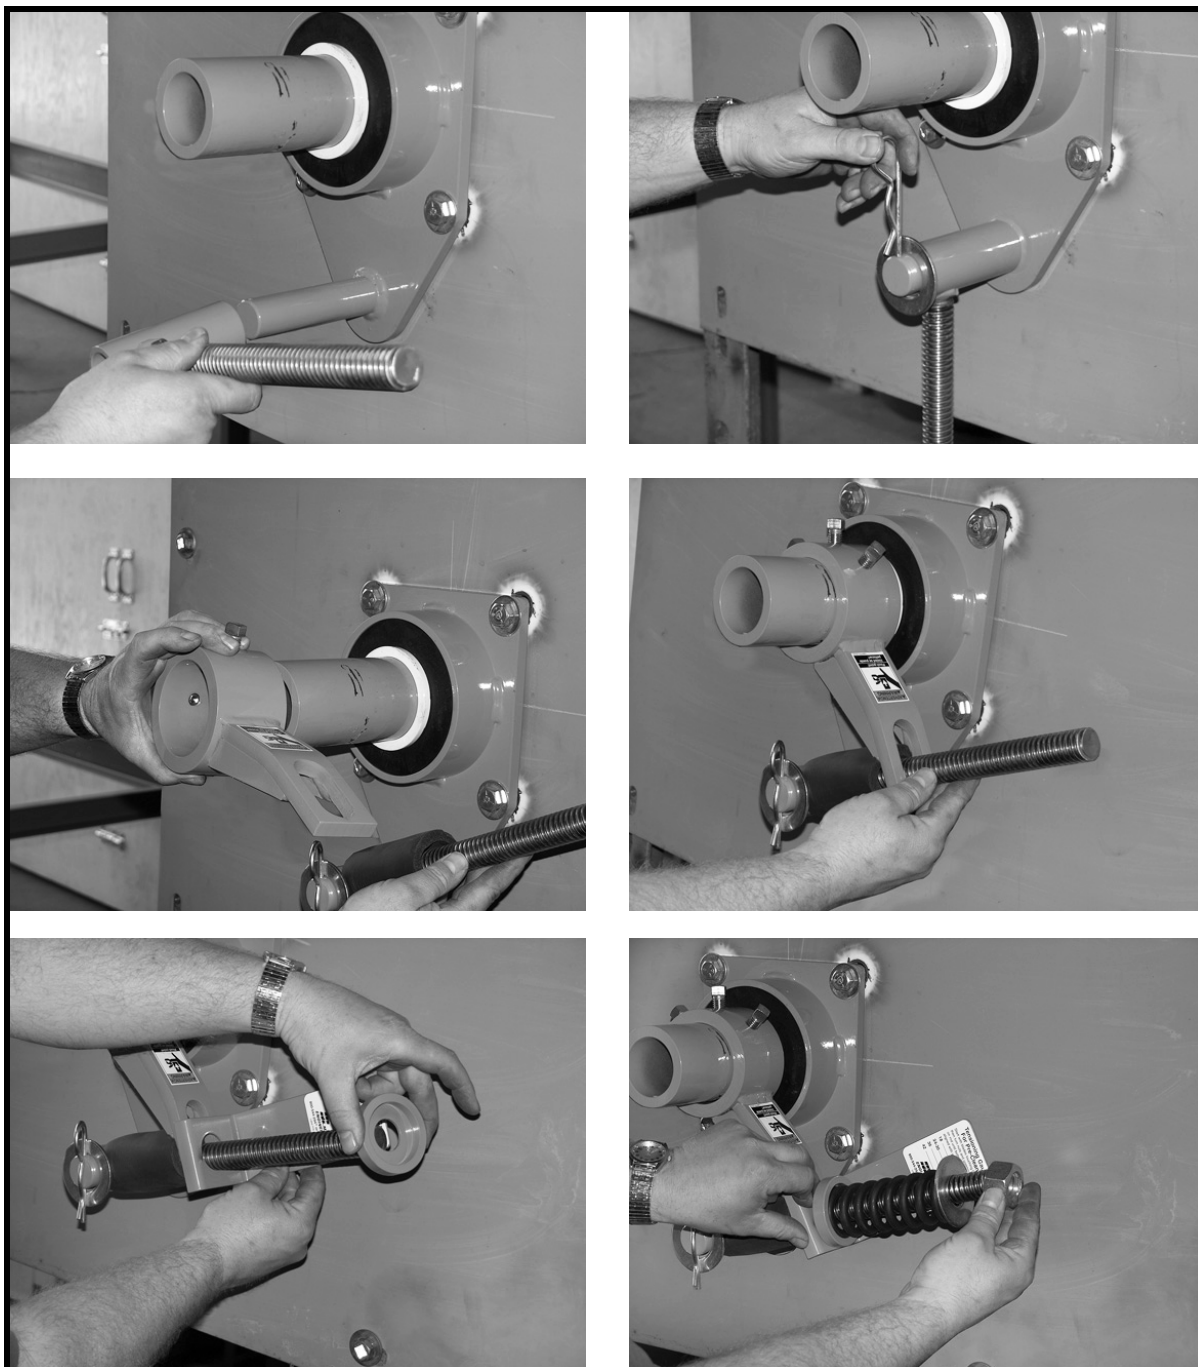

Figure 11. Installing Tensioner Components
3. Install tensioner components as shown in Figure 11.